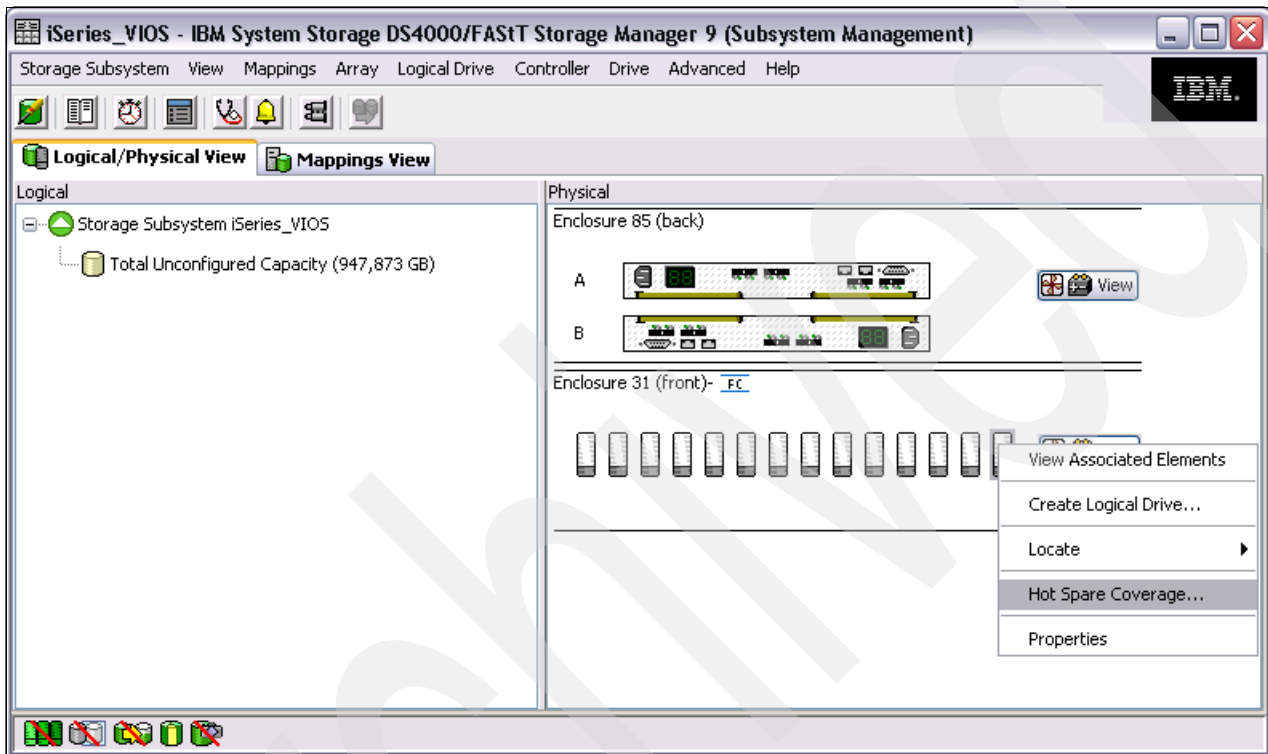

Figure 7-46 DS Storage Manager Subsystem Management Logical/Physical View
3. In the DS Storage Manager Logical/Physical View of our storage subsystem we right-click the drive that we want to make a hot spare and select **Hot Spare Coverage** from the context menu, as shown in Figure 7-46.